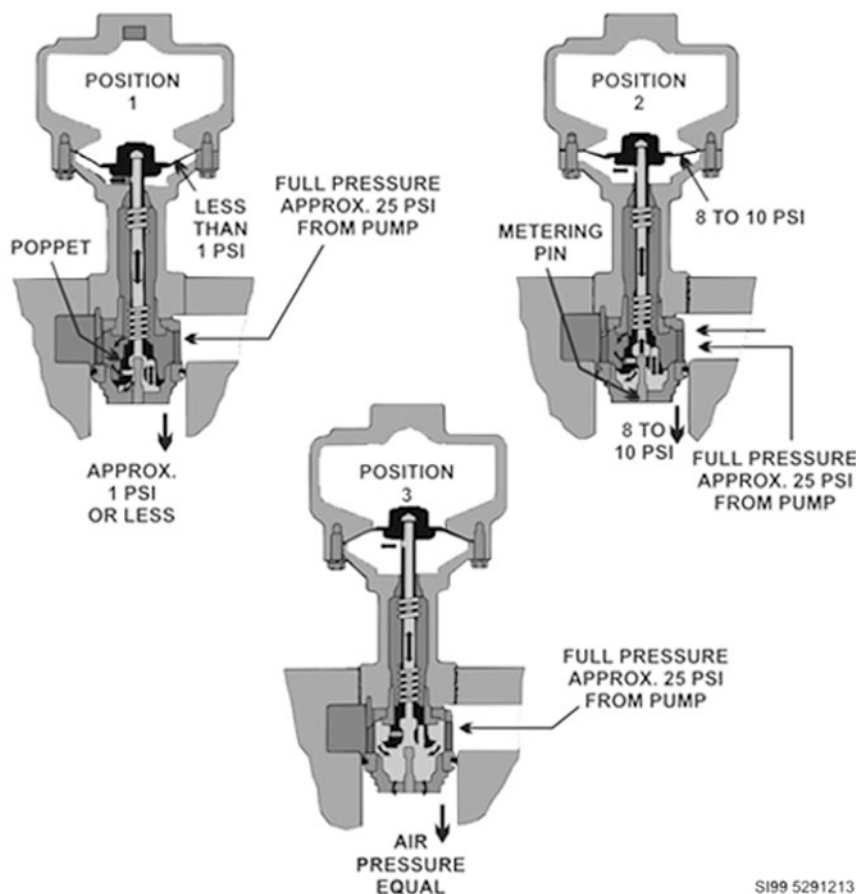

Figure 5-15. Red Jacket XLD diaphragm leak detection.
On some submersible pumps, you will find a mechanical leak detection system (fig. 5-15). It is a pressure-sensing, diaphragm-operated valve designed to indicate a leak between the leak detector and dispenser.
14. Explain how the Red Jacket XLD (fig. 5-15) leak detection system works.